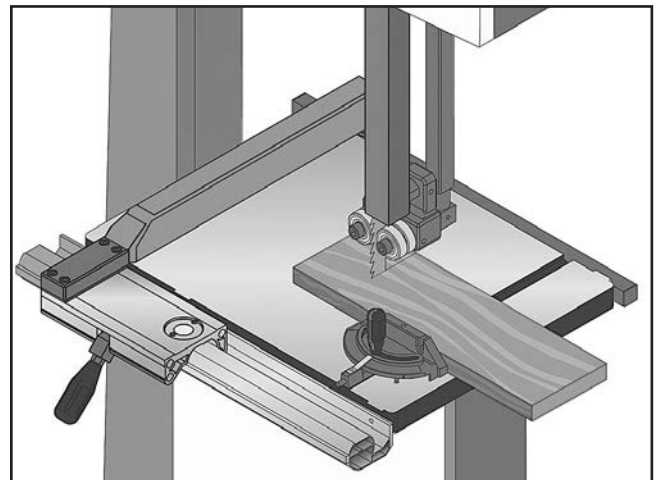

Figure 54. Example of crosscutting operation with miter gauge.
5. After all safety precautions have been met, turn the bandsaw **ON**. Slowly feed the workpiece into the blade and continue the cut until the blade is all the way through the workpiece. **Figure 54** shows a typical crosscutting operation.